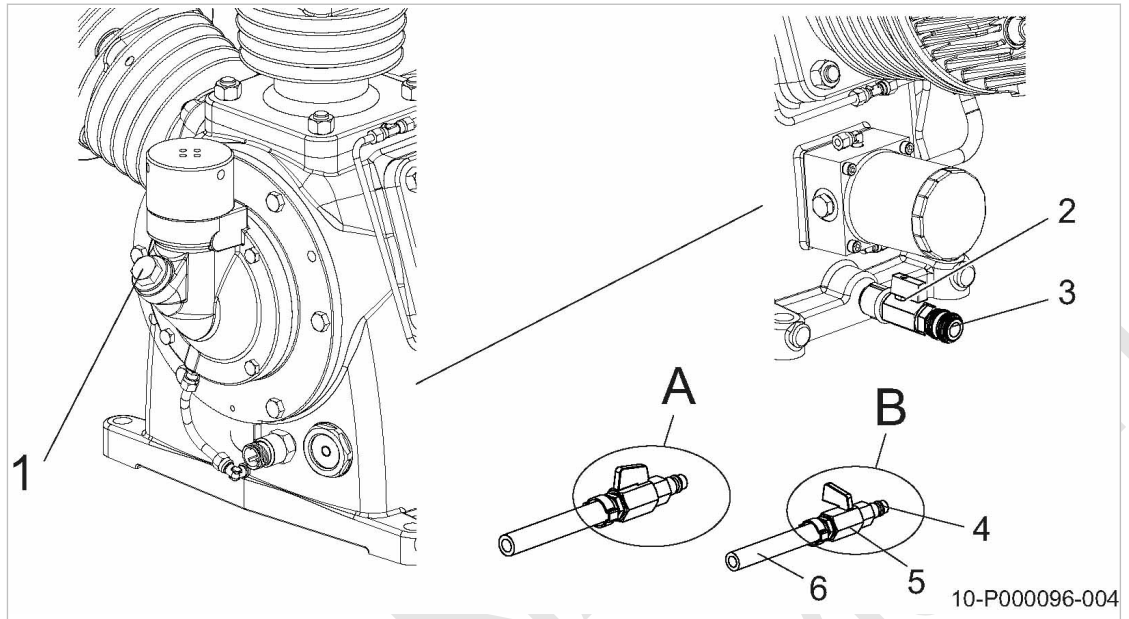

Fig. 35 Changing the compressor oil
1. Open the filler plug ① (Fig. 35) slowly.